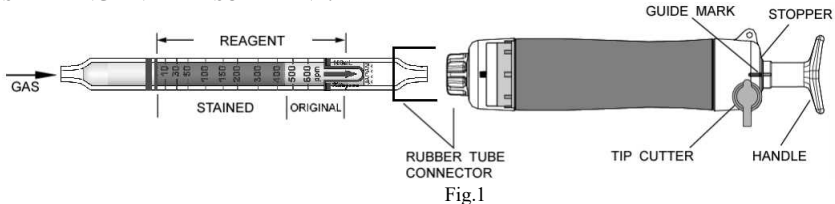

Fig.1
- ② Insert the detector tube into the aspirating pump securely as shown in Fig.1. (Arrow mark shall point to the pump.)
- ③ Align the guide marks on the shaft and stopper of the aspirating pump.
- ④ Pull the pump handle at a full stroke until it locks and wait for 1.5 minutes or until the completion of sampling is confirmed with the flow indicator of the pump. (See descriptions about the flow indicator in the instruction manual of the pump.)
- ⑤ On completion of sampling, read the scale at the maximum point of the stained layer.
- ⑥ When the concentration is over the scale range, a 1/2 pump stroke can be used to determine concentrations of 25 - 1500ppm.